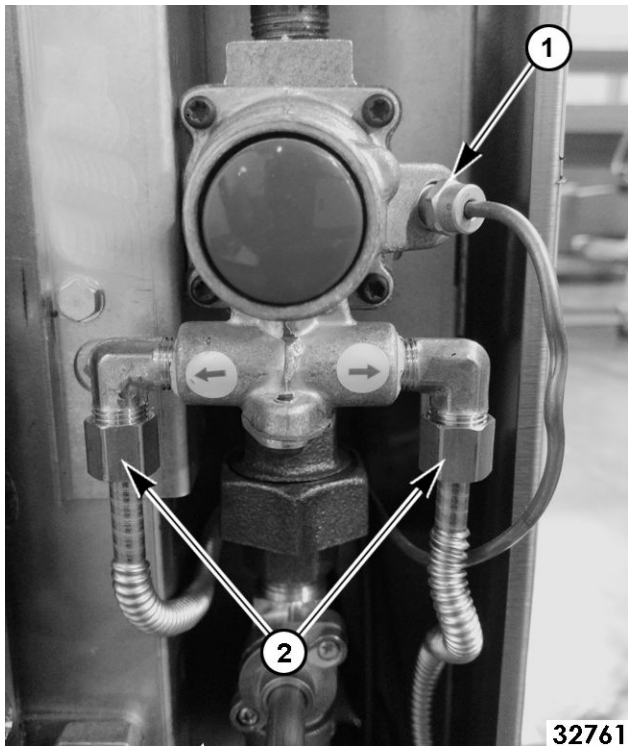

Fig. 21
3. Remove thermocouple (1, Fig. 21).
4. Disconnect flex lines (2, Fig. 21) from pilot safety valve.